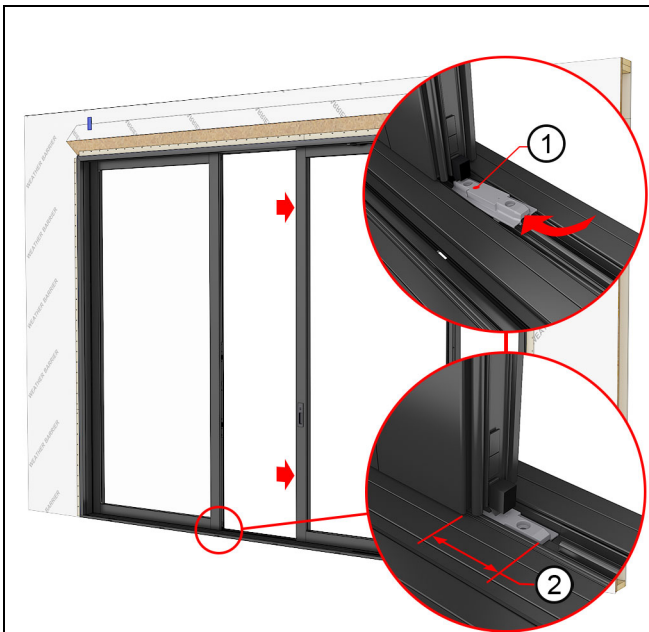

Figure 99
6. Snap the injection molded bottom stationary bracket in place and slide under the stationary panel. See Figure 99.